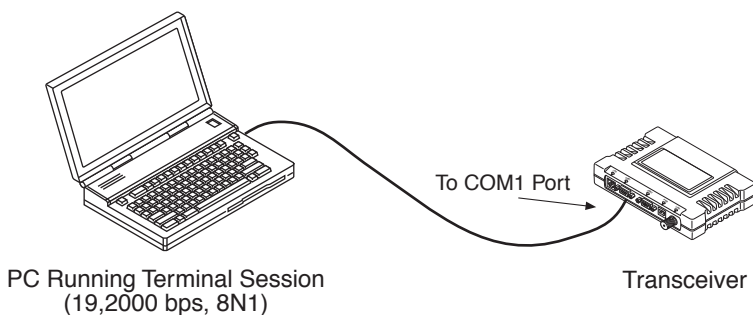

Figure 6. PC Configuration Setup
- a. Connect a PC to the transceiver's DB-9 COM1 connector as shown in **Figure 6** using a straight-through cable. Launch a terminal communications program, such as HyperTerminal (included with most Windows™ systems). Press **ENTER** a few times to receive the ready ">" prompt on the screen.